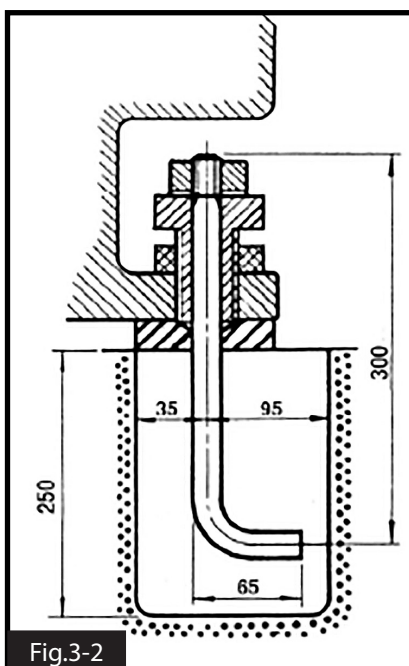

Fig.3-2
The foundation should be concrete approximately 200mm thick with pockets left clear for the hold down bolts. The hold down bolts can be "L" shape as per the example in Fig. 3-2
- ☐ Bolt the support arms onto the feed table. Ensure they are level and square to the table. (Fig.3.2)